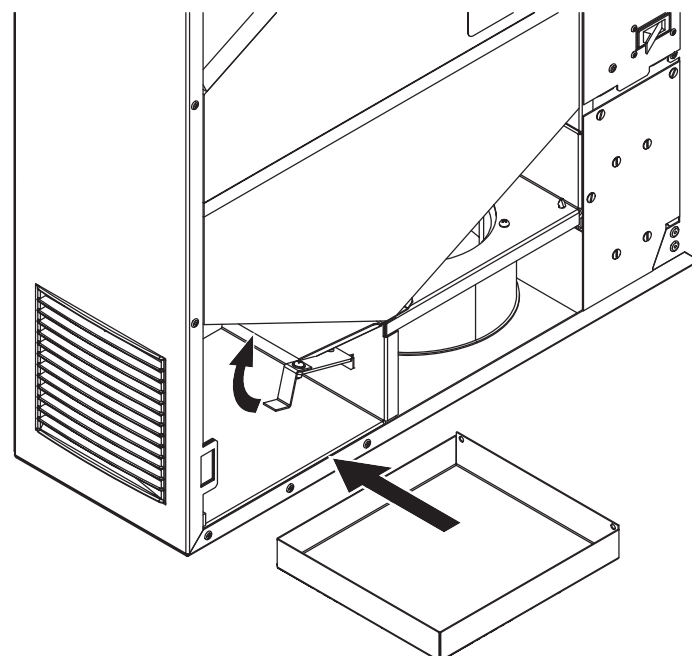

Fig. 18. Drain pan installation
5. Empty the drain pan, lift the condensate level switch and re-install it back (Fig. 18).